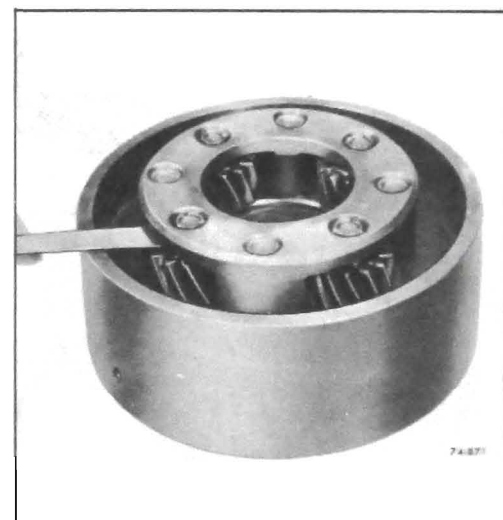

Figure 76-582
6. Check pinion end play. Pinion end play should be .009" - .024". See Figure 76-582.